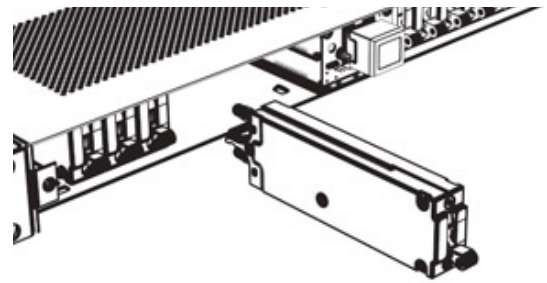

Figure 11. Breaker installation
- Step 2.** Select a breaker of sufficient ampacity and insert it into the desired output circuit, making sure to seat the breaker securely (see Figure 11).